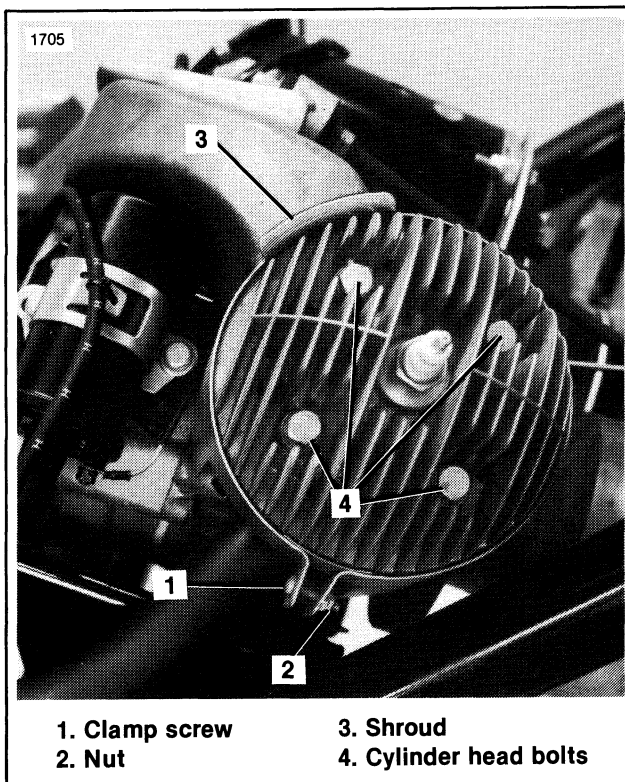

Figure 5-5. Cylinder Head Mounting
4. See Figure 5-5. Remove the clamp screw, nut and shroud. Remove the four bolts and cylinder head.